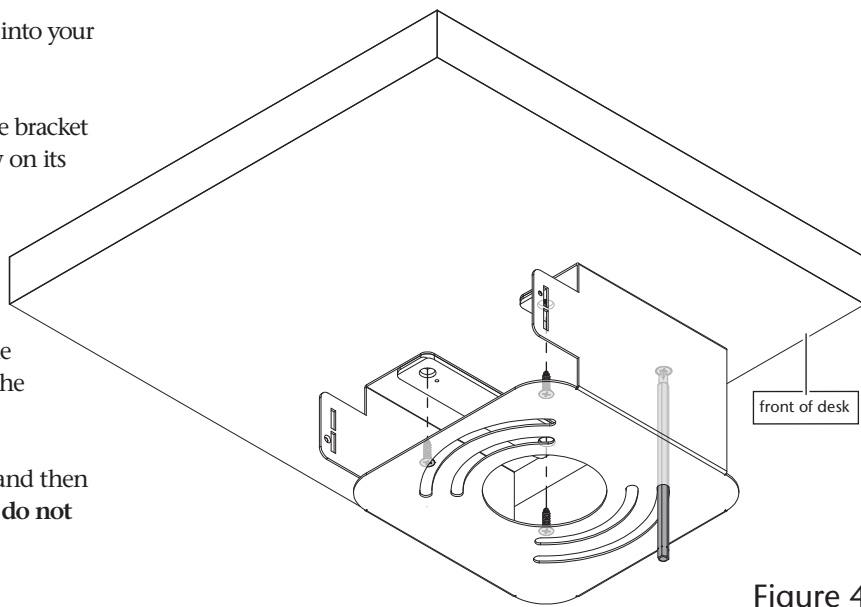

Figure 4
8. Insert the screwdriver bit through the bottom of the bracket and then balance an included 3/4-inch wood screw on its tip (Figure 4).
9. Line up the screw holes in the top of the bracket with the pilot holes you drilled, and then screw in the screw sitting on the tip of the screwdriver bit (Figure 4). Tighten the screw enough to hold the bracket in place but leave it loose enough to move the bracket to align the other screw holes
10. Install the three remaining 3/4-inch wood screws, and then tighten all four screws so the bracket is held firmly; **do not overtighten the screws** (Figure 4).